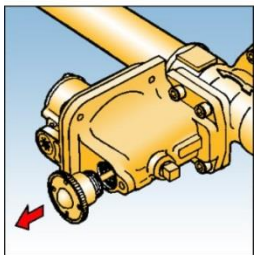

Fig. 3
3. Firmly pull out reset spindle to re-cock OPSS unit and release spindle gently. See Fig. 3.
7. Re-cock OPSS by firmly pulling reset spindle. See Fig. 3. (Hold for approx. 5- 10 secs).
5. Firmly pull out reset spindle to re-cock OPSS unit. Hold for 5 - 10 seconds and release spindle gently. See Fig. 3.